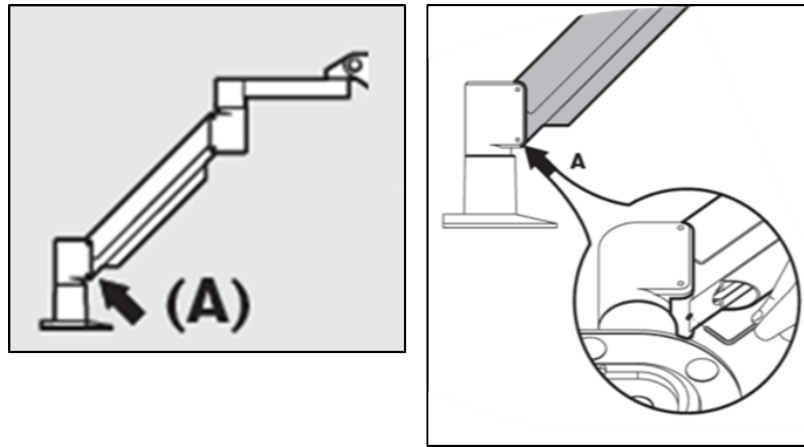

Figure 4-5. Loosen Counterbalance Set Screw A
- If the arm drifts downward, lift the arm to the top of its range and loosen Counterbalance Set Screw A by turning the screw at least a ½ turn. Use a 3/32 Allen Wrench. See Figure 4-5.
- Raise the arm to the highest position and tighten Counterbalance Set Screw A until contact is made, then tighten  $\frac{1}{2}$  to  $\frac{3}{4}$  max revolutions. See Figure 4-5.